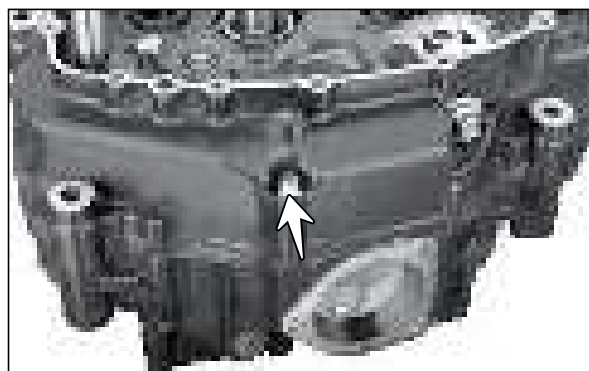

Fig. 3.204
- Assemble and tighten hexagonal flange bolt (M6x55 - 1 No.) on the crankcase complete RH. (Fig. 3.204)